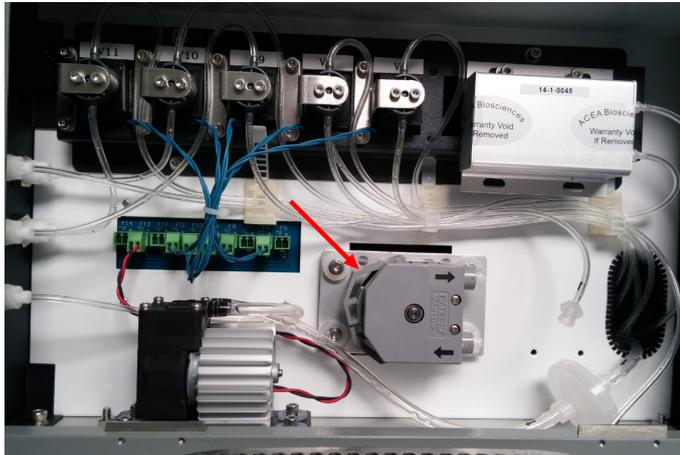

Figure 4-13 Remove the Peristaltic Pump Retainer Clip
- 4 Grab two sides of the pump retainer clip, gently squeeze in and remove the clip from the pump head (Figure 4-13);